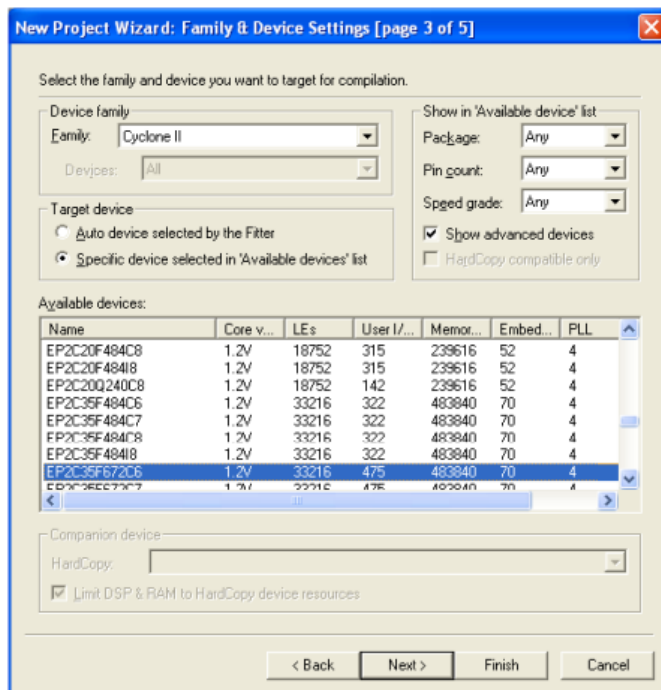

Figure 4: Choose the device family and a specific device.
5. In the Wizard reported in Figure 4, we have to specify the type of device in which the designed circuit will be implemented. Choose **Cyclone II** as the target device family. We can let Quartus II software select a specific device in the family, or we can choose the device explicitly. We will take the latter approach. From the list of available devices, choose the device called **EP2C35F672C6** which is the FPGA used on Altera DE2 board.